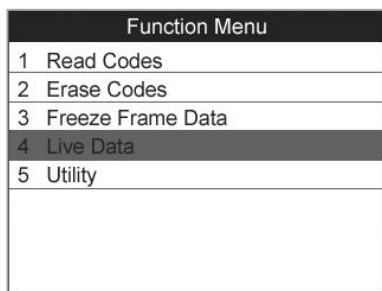

Figure 10.2
- From the function menu (Figure 10.2) use the **UP/DOWN** scroll button to select **Read Codes** and press the **OK** button.
- 1) From the function menu (*Figure 10.2*) use the **UP/DOWN** scroll button to select **Erase Codes** and press the **OK** button.
- 1) From **Function Menu** (*Figure 10.2*) use the **UP/DOWN** scroll button to select **Freeze Frame Data** and press the **OK** button.
From the function menu (*Figure 10.2*) use the **UP/DOWN** scroll button to select **Live Data** and press the **OK** button.
From the function menu (*Figure 10.2*) use the **UP/DOWN** scroll button to select **Utility** and press the **OK** button. The scan tool displays function menu as below.